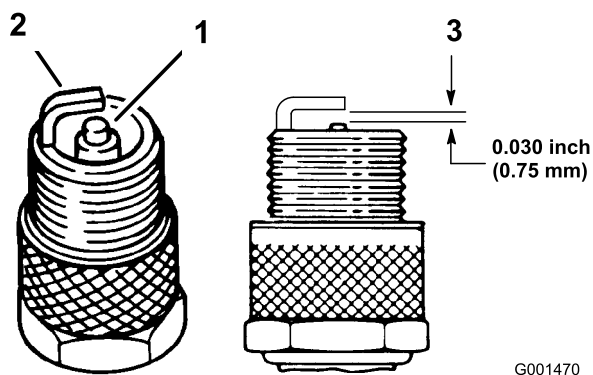

Figure 50
1. Look at the center of the spark plugs (Figure 50). If you see light brown or gray on the insulator, the engine is operating properly. A black coating on the insulator usually means that the air cleaner is dirty.
2. Check the gap between the center and side electrodes (Figure 50). Bend the side electrode (Figure 50) if the gap is not correct.
3. Connect the wires to the spark plugs (Figure 50).